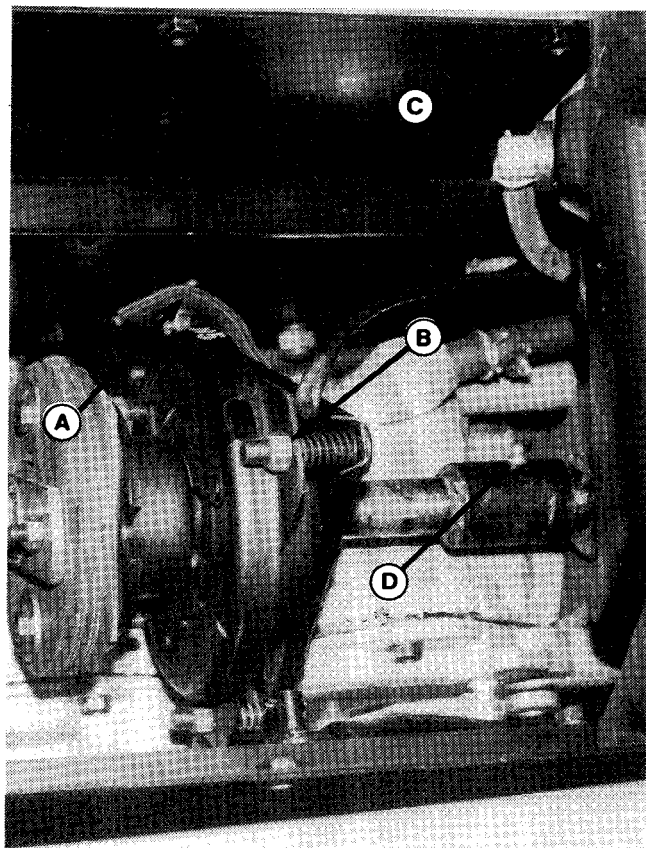

Figure 14.
12. Connect the wiring harness (C, figure 14).
13. Connect the strap (A, figure 14) to bottom hole in the side of the frame shown. Place washer between strap and 5/16 x 3/4 whizlock screw on the inside of frame. Install 5/16 centerlock nut onto screw from outside frame. With strap tight and clutch vertical (see B, figure 14) tighten strap. (Tighten screw and nut in tractor frame first and then the screw in clutch slot.)
14. Using a grease gun, apply grease at the front fitting (D, figure 14) until grease is visible at front of shaft.